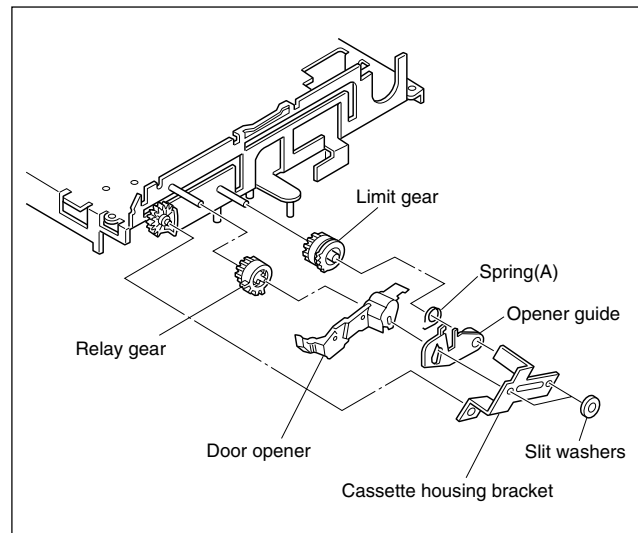

Fig. 2-2-3b
(2) Remove the two slit washers and remove the cassette housing bracket. (See Fig.2-2-3b.)
(3) Remove the opener guide, spring(A), door opener, relay gear and limit gear. (See Fig.2-2-3b.)